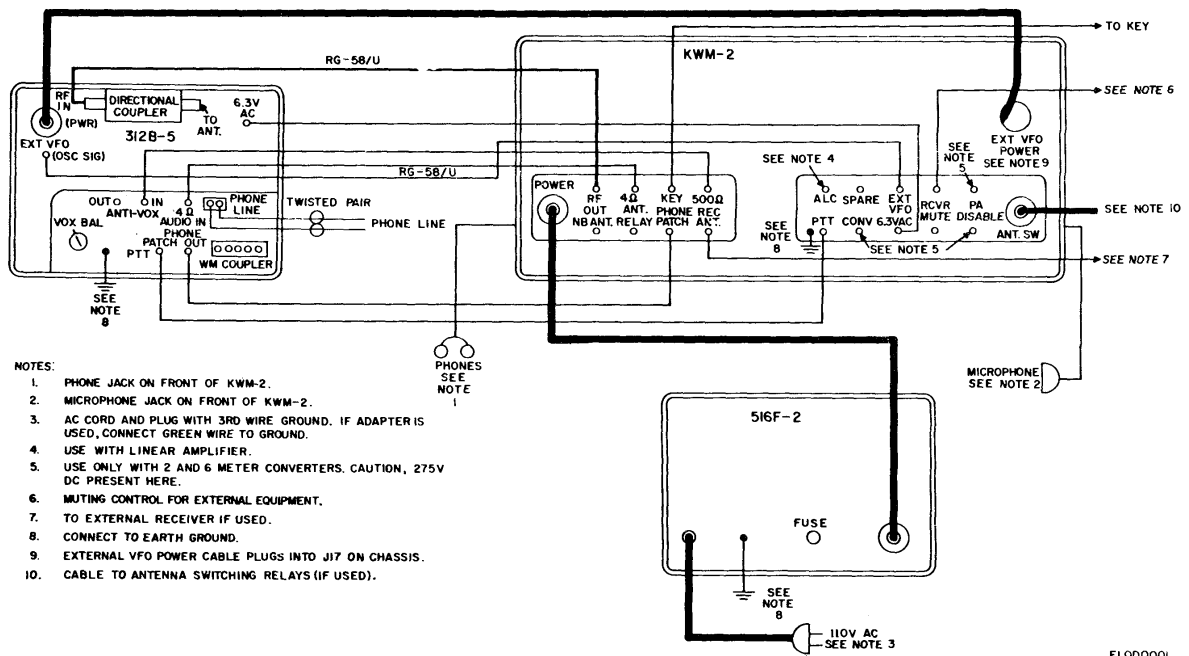
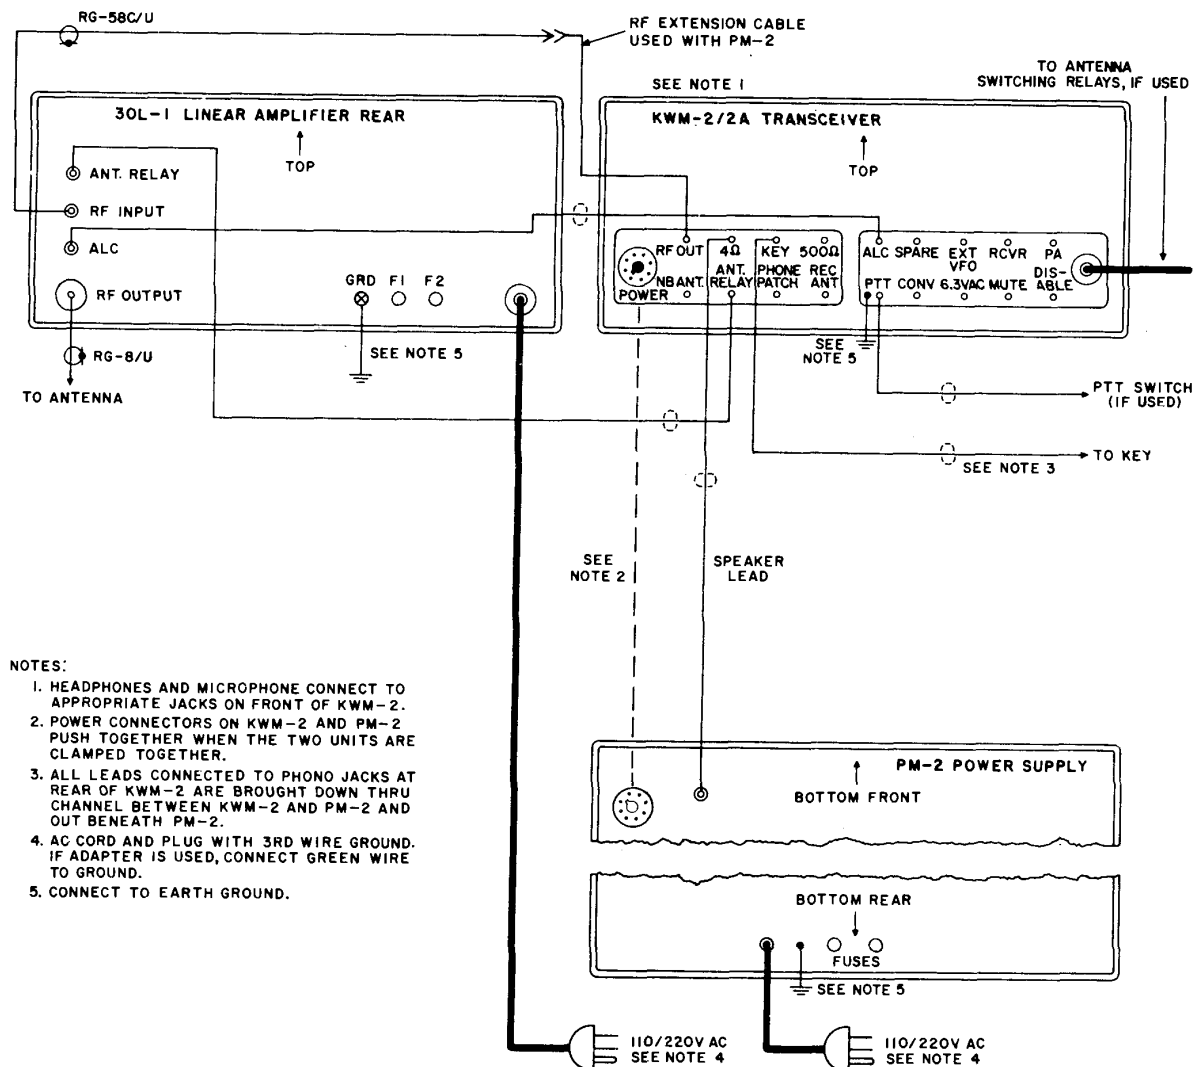
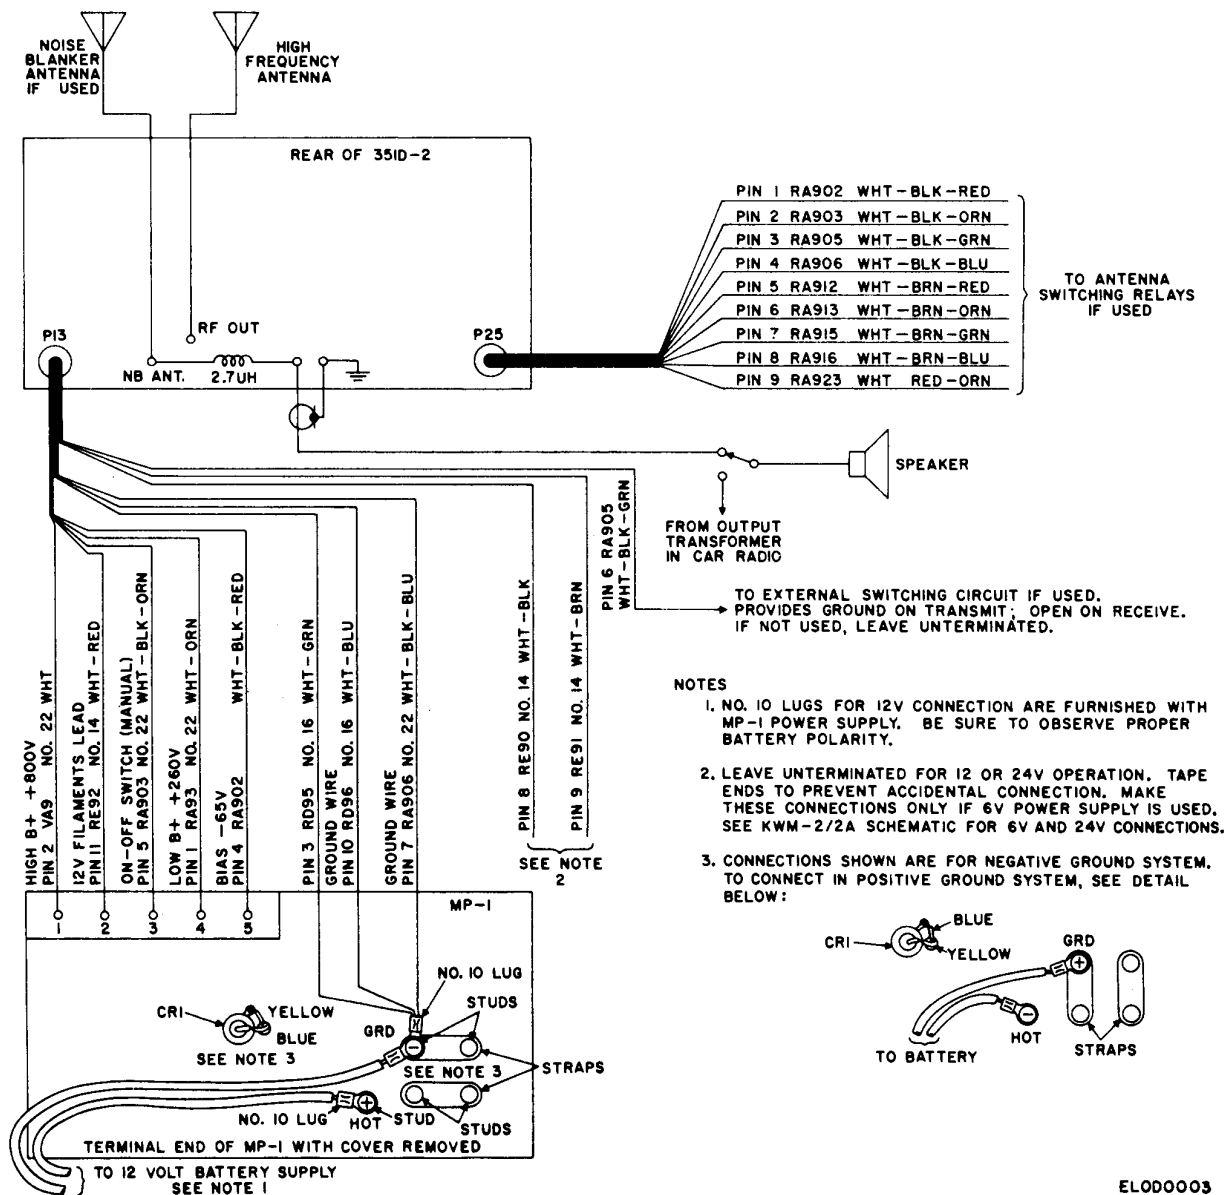

Figure 3-1. Fixed station (100 watt) interconnections.
Figure 3-2 Traveling station (1,000-watt) interconnections.
Figure 3-3. Mobile station interconnections.
For 100-watt, fixed-station installation, refer to figure 3-1. For mobile installation, refer to figure 3-3. Traveling 1,000-watt station interconnections are shown in figure 3-2.
a. *Fixed-Station Installation.* Connect associated equipment to the Collins KWM-2 or KWM-2A (fig.3-1). ANT SW connector J25 supplies band information in the form of grounds for each 3.5-, 7-, 14-, 21-, and 28-MHz operating band. This system provides a convenient method of providing band information to automatically tuned antenna systems
Before making connections to the automobile electrical system, make sure that the primary circuits in the Collins MP-1 are connected for proper ground polarity. Correct connections for either positive or negative ground systems are shown in figure 3-3.